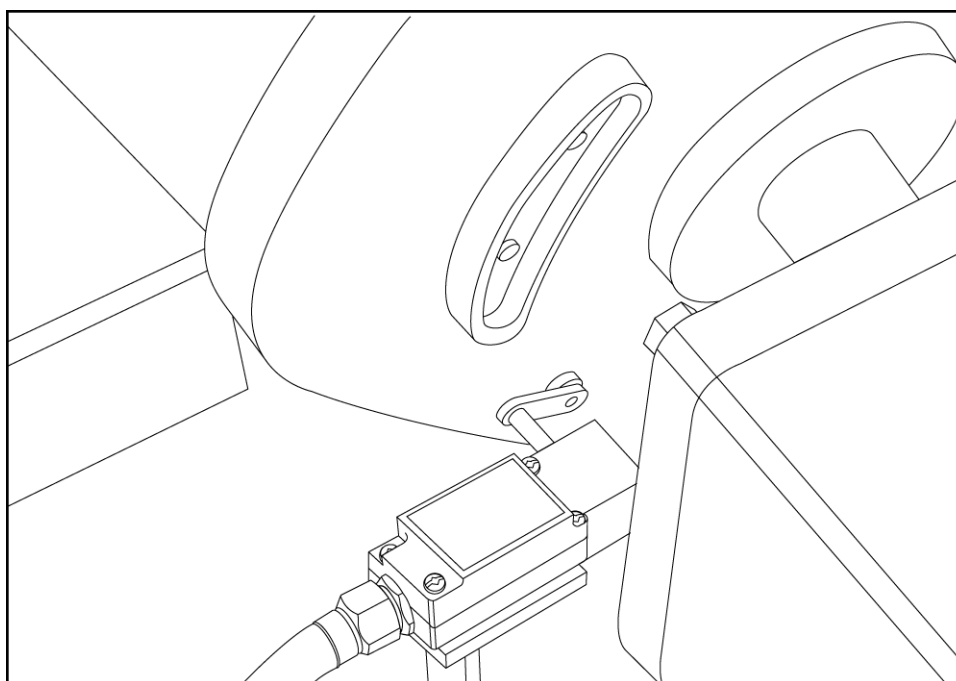

Figure 6.10 LIMIT SWITCH LS-7
6.2.4 Set actuator on block delivery drive cam to trip LS-7 (see figure 6.10).